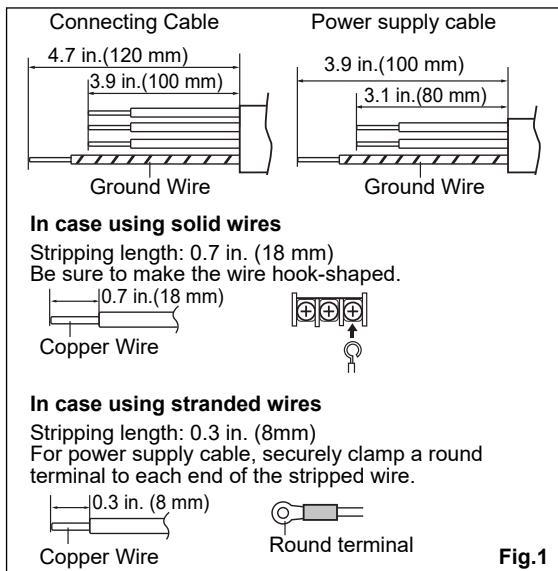

Fig.1
(1) Strip the copper wires. (Fig.1)
(2) Remove the Cable Cover.